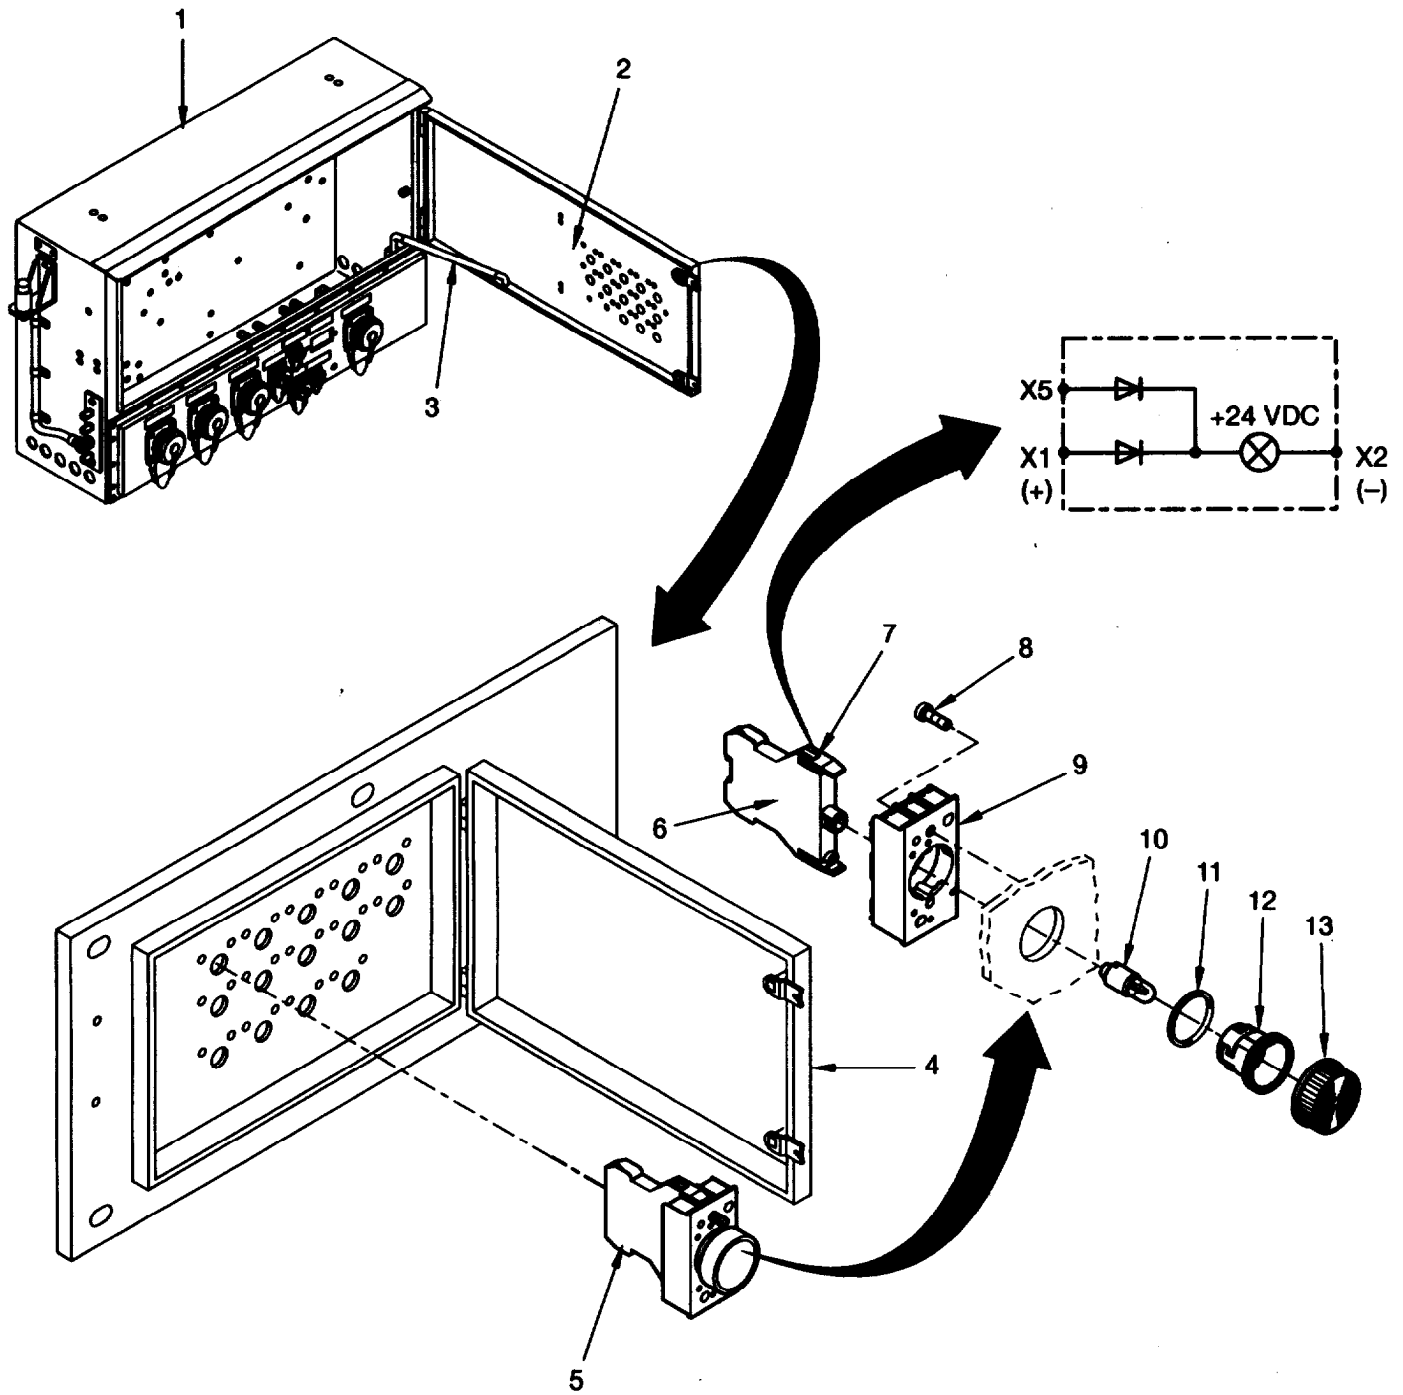

Figure 4-38 Light Indicator.
- a. Remove stanchion by PDU (1, figure 4-38).
- b. Open access door (2) and secure with prop (3).
- d. Open indicator panel cover (4).
- e. Record labeling and position of cables to bulb holder (6).
- g. Use a screwdriver to push in closure (7) first using your hand to support the bottom of the bulb holder (6) until they snap in, and remove bulb holder (6) with bulb (10).
- h. Loosen screws (8) on base (9).
- j. Pull lamp cap (11, 12, 13) out of front of panel, and remove base (9) from back of panel.